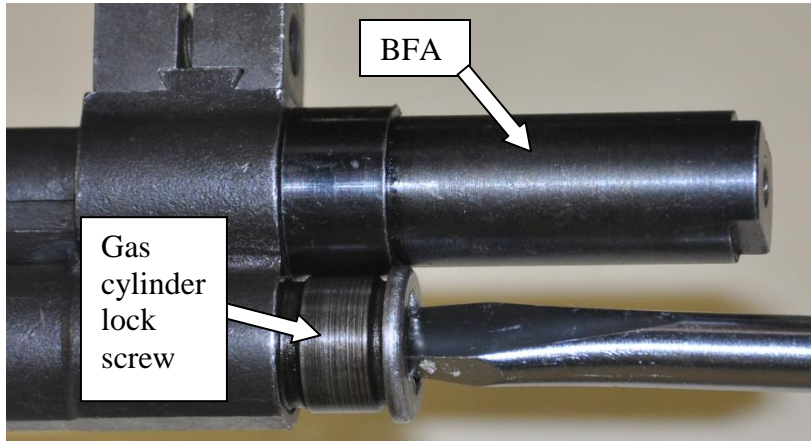
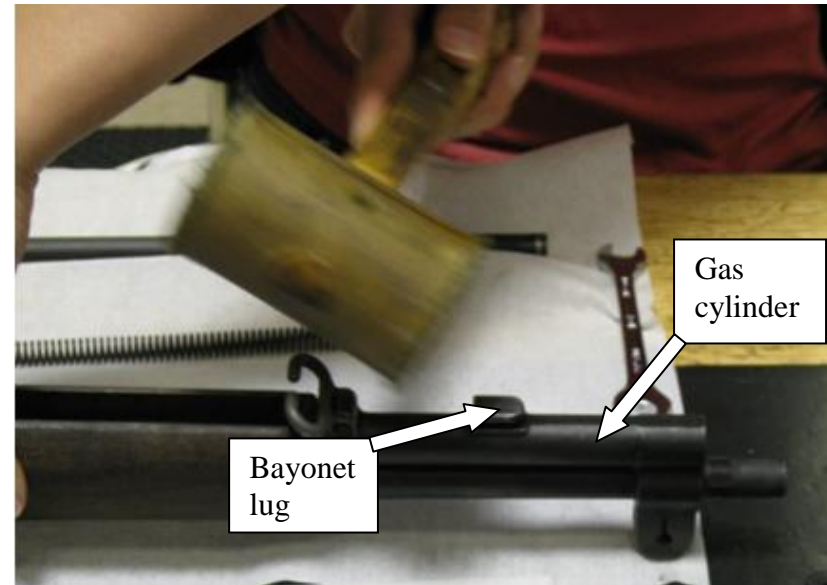
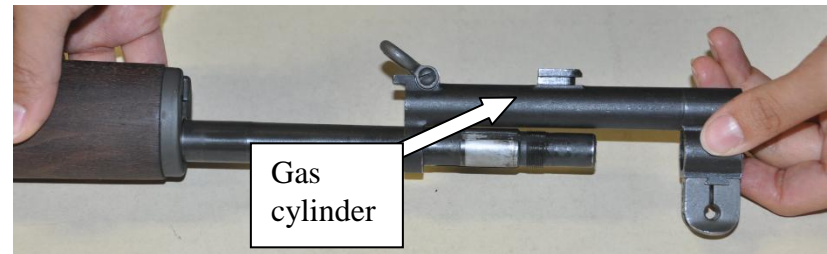

Figure 23. Gas cylinder lock screw removal
Figure 25. Loosen gas cylinder with wooden mallet
Figure 26. Gas cylinder removal
- 7) Using a T-grip screwdriver (preferred) or a standard flathead screwdriver, unscrew and remove the gas cylinder lock screw and then unscrew the Blank Firing Adapter (BFA) (fig 23 and 24). If necessary apply light pressure with 7/16 inch wrench to remove the BFA. Loosen the gas cylinder by tapping lightly toward the muzzle on the bayonet lug with a wooden mallet or similar soft object (fig 25) and remove (fig 26).